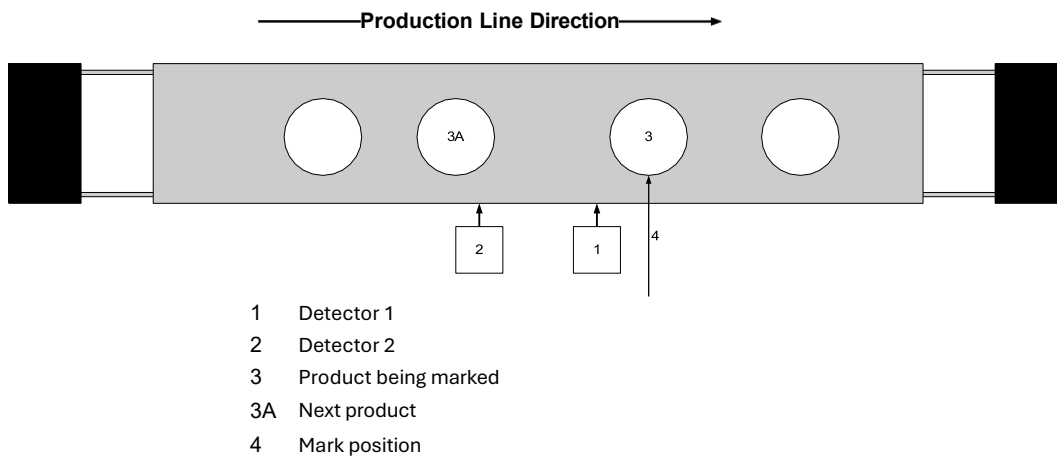

Figure 42 - Dual-detector configuration
In a dual-detector configuration, the detectors are mounted so that a gate signal from detector 2 is followed by a mark trigger signal from detector 1 and before detector 2 sends a new gate signal when it detects the next product. **Figure 42** shows an arrangement for dual-detector operation. Detector 1 (1) and detector 2 (2) are shown detecting the trailing edge of a product (3), which is currently being marked at the mark position (4). Detector 2 (2) will not detect the next product (3A) until after the current mark has been completed.